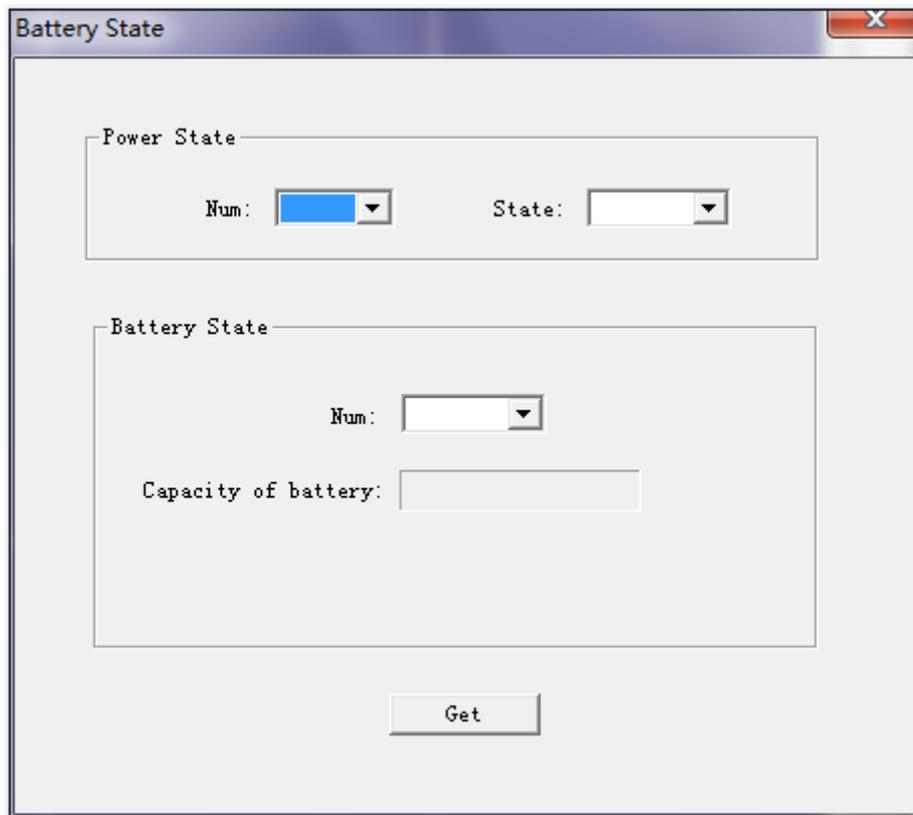

Figure 2- 16
Step 2. Click Control&Search. See Figure 2- 16.